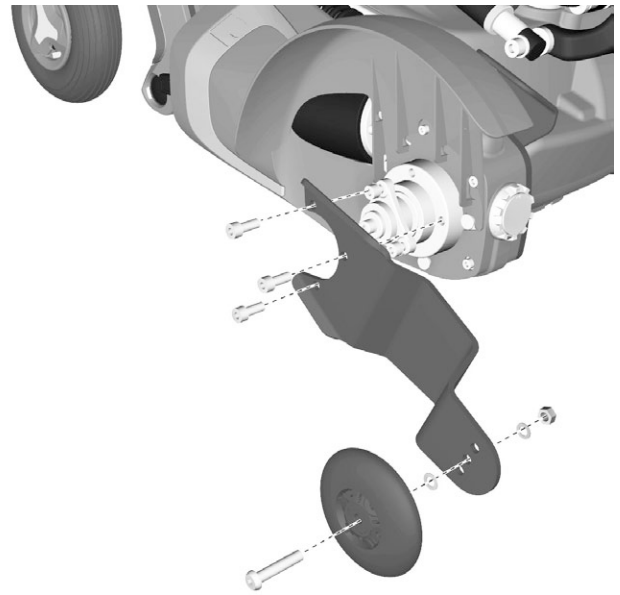

Figure 47. Support wheel unit.
3. Remove the three screws holding the support wheel unit. See fig. 47.
1. Assemble the support wheel unit using the three screws. Tighten the screws using a torque wrench. **Tightening torque: 24 Nm / 17.7 Ft/lbs** See fig. 47.